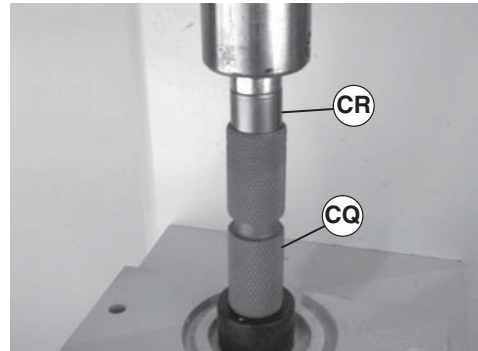

Figure 55
4. Press bearing (Figure 55, item CR) into pulley (CQ) until seated.